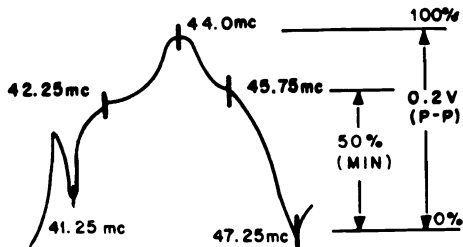

FIG. 6
18. Re-adjust generator output to produce a 0.2 volt P-P indication on the scope and observe the response. The curve obtained should conform to Fig. 6.